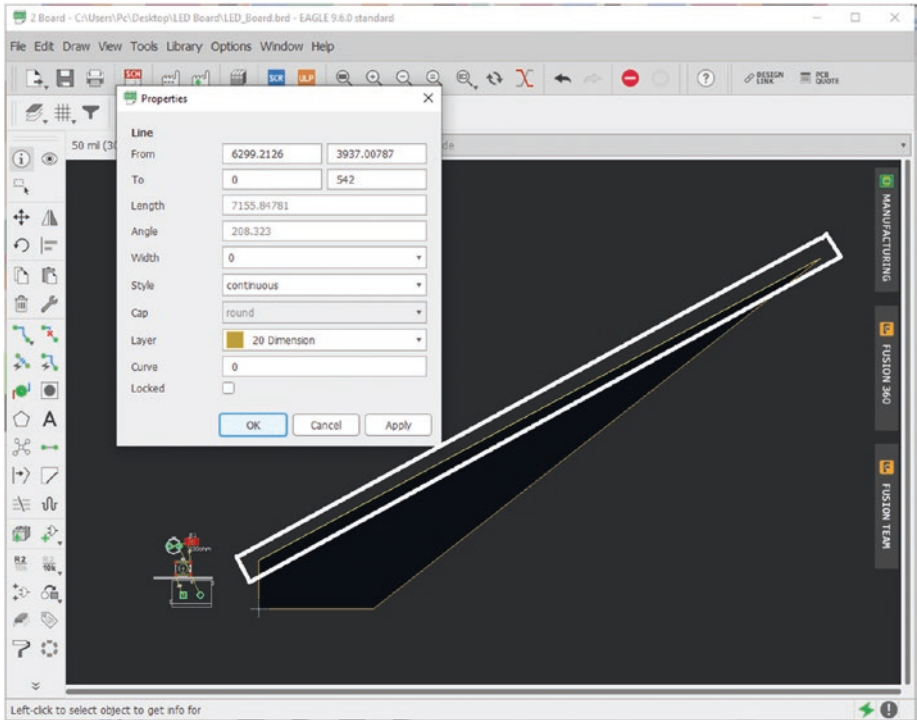

Figure 5-59. Select top horizontal line
- Now click the top horizontal line (or what would be horizontal had we not updated the other lines). See Figure 5-59.